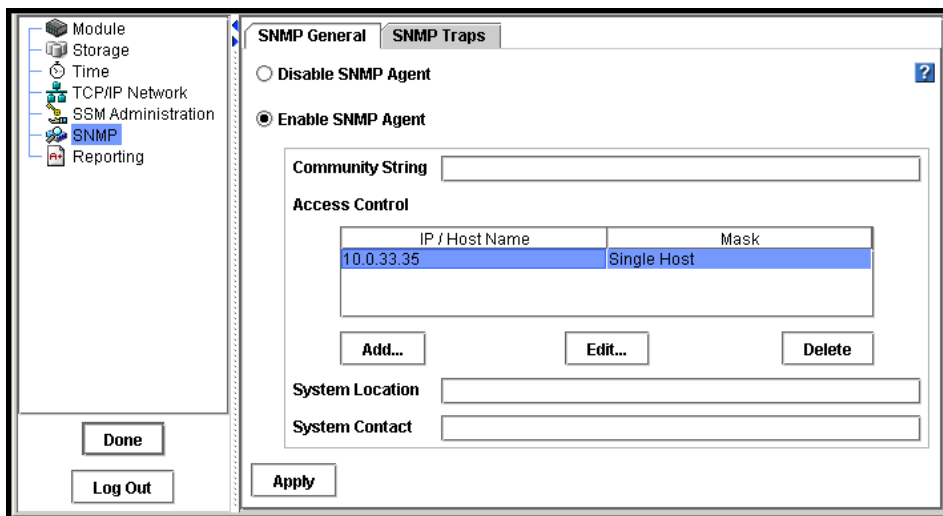

Figure 115. Editing a Host in the Access Control List
1. Select a host listed in the Access Control list, shown in Figure 115.